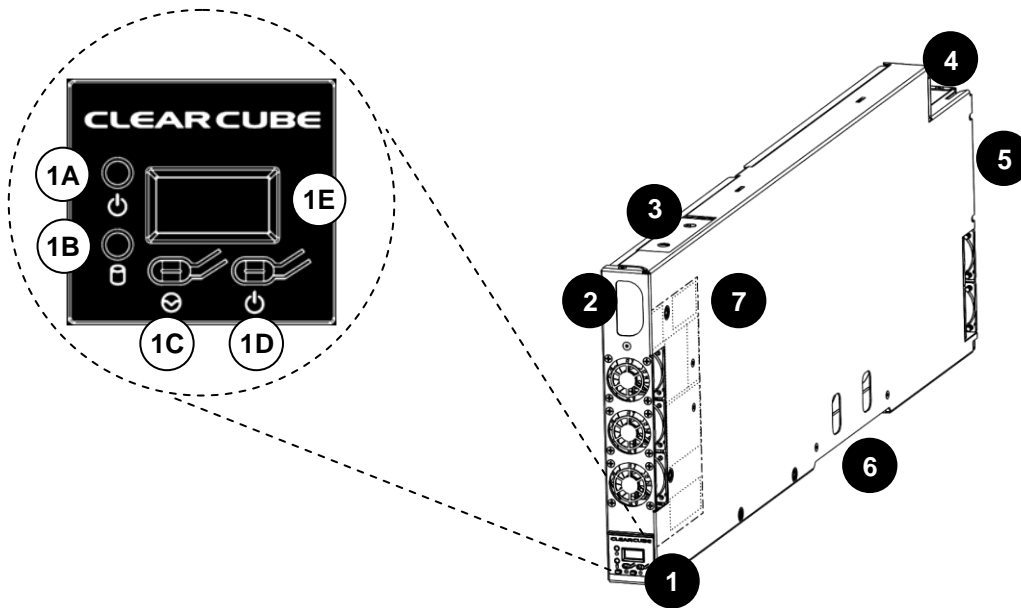

Figure 1. The A6106D and A6106H Blade PC components
The power button is located on the lower-right portion of the front panel, shown as 1D in Figure 1 on page 1.
The reset button is located on the lower-left portion of the front panel, shown as 1C in Figure 1 on page 1.
- a ClearCube zero client compatible with the blade’s video configuration (a dual zero client for a dual host card or a quad zero client for a quad host card). The blade’s video configuration is specified on a label on the side of the blade (shown as item 7 in Figure 1 on page 1).